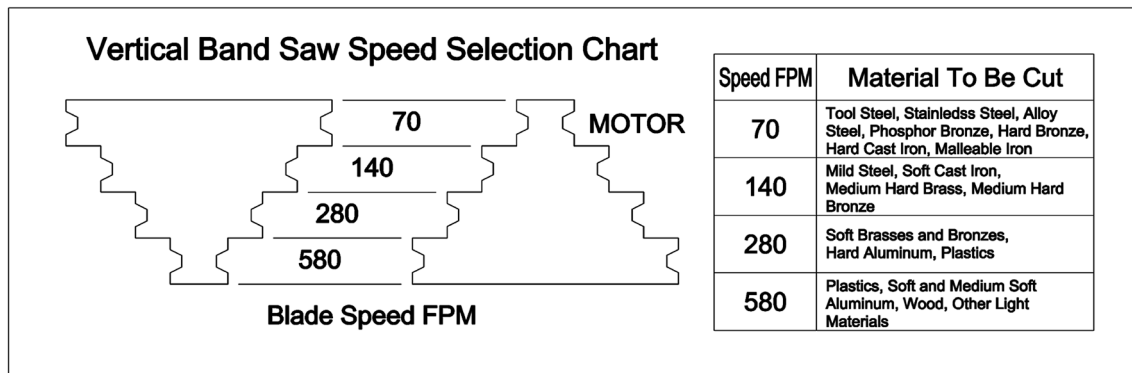

Figure 5: Belt Speed/Position Relationship
- **Blade Speeds** (Figure 5). The band saw has four blade speeds. The different speeds are obtained by changing the position of the motor drive V-belt on step pulleys. Change blade speeds as follows. Caution: Change speeds only when the machine is not running.
5. Select the speed using the placard on the saw head. Put the V-belt in the pulley grooves of the pulley for the desired speed (Refer to Figure 5 for belt locations and the speeds available).
The band saw is delivered with a saw blade that is adequate for a variety of jobs on a variety of common materials. Refer to Figure 5 for the speeds recommended for various materials. These speeds, while appropriate for many common cutting needs, do not encompass the wide variety of special blade configurations (tooth pitch and set) and special alloys for cutting unusual or exotic materials.